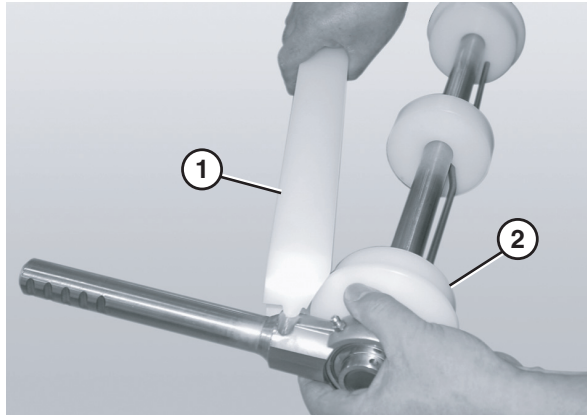

Figure 88
3. Attach the flanged pucks (Figure 88, item 2) and bearing shaft assemblies to the idler shaft.
4. Attach the guard bar (Figure 88, item 1).